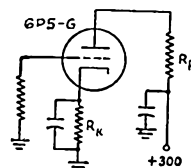
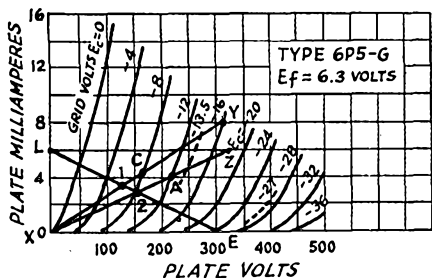

Fig. 3—Reference circuit for illustrating the case of changing  $R_k$ , holding  $R_p$  constant.
Fig. 4—Average plate characteristics for the type 6P5G tube.
Using the schematic and characteristic curves of Fig. 3 and Fig. 4,
4) The effect of increasing the cathode resistance also is shown in Fig. 4. In this case points *A* and *Z* are located first. Assuming a bias of  $-18$  volts, the plate-current point is found to be 18 divided by 3000, or 6 ma., and assuming a bias of  $-12$  volts the plate-current point is found to be 12 divided by 3000, or 4 ma. Locate these points on the graph and draw the bias line through them. The intersection of the bias line and load line, point 2, represents the operating point of the stage with a 3000-ohm cathode resistor.